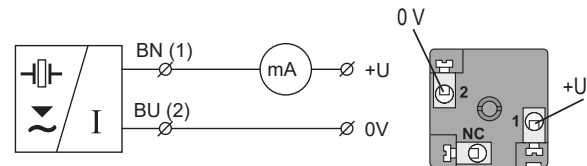
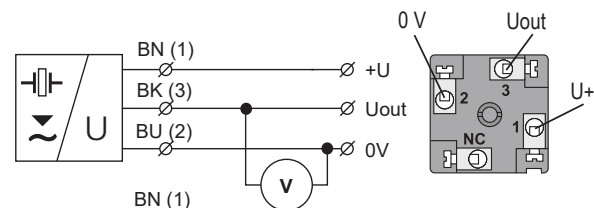
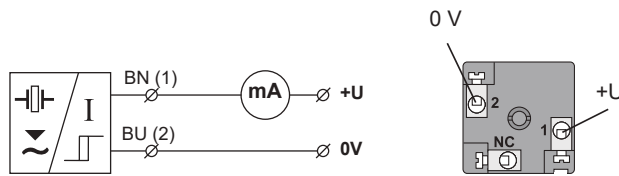
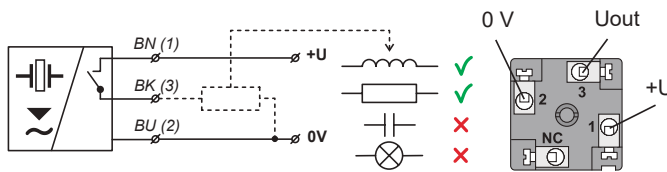

Fig.15: Connection diagram of the ULM level (variant -I) and inside view meter of the connector
Fig.16: Connection diagram of the ULM level meter (variant -U) and inside view of the connector
Fig. 17: Connection diagram of the ULS sensor with S type output (two-state current switch 4 mA / 20 mA)
Fig. 18: Connection diagram of the ULS sensor with P type output (PNP) with an open collector
The UPS level meter or ULS level sensor with a G type cable gland are connected to processing (display) units by means of a cable with an outer diameter of 6 to 8 mm (recommended wire cross-section 0.5 to 0.75 mm²), via a detachable ISO connector with inner screw terminals, which is part of the delivery. The connection diagram and the inner view of the connector are shown in Fig.15 and 16. Non-detachable connector IP67 with PVC cable 5 m long can be supplied as an extra option.
4. Connect the cable wires to the screw terminals as shown in Fig. 15 (current output 4-20 mA), Fig. 16 (voltage output 0-10 V), Fig. 17 (S type output) or Fig. 18 (P) type output. Tighten the terminals firmly.